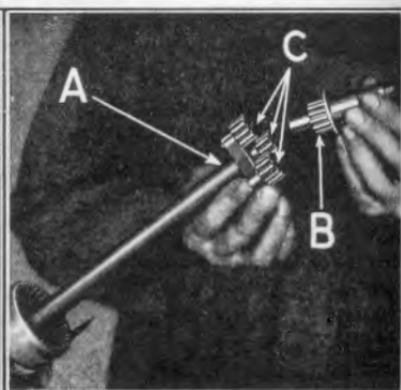

Fig. 388
- 750 Withdraw steering gear post (See "A" Fig. 388) from steering gear tubing and lift out steering gear drive pinion "B". The three steering gear pinions "C" can then be lifted from pins on steering gear spider.
- 769 The pinions are installed by inserting them over the ends of the three pinion pins. The steering gear drive pinion is then inserted into end of steering post and meshed with the three pinions (See Fig. 388).